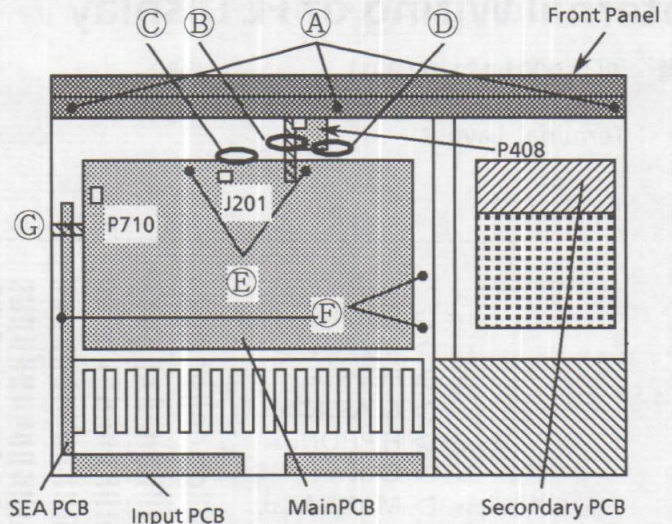

Fig 1. Top View
- 1) Remove the 3 revets (A) fastening top of the Front Panel, and the 3 screws (L) fastening bottom of the Front Panel.
- 3) Cut the tie band (B) and disconnect the connector P408(Fig.1), then remove the MASTER VOLUME knob.
- 1) Remove the 7 screws (H) fastening the Input PCB and release the rebet (C) fastening the SEA PCB
- 2) Remove the connector P710(Fig.1).
- 3) Cut the Tie Band (B), (C) and (D).
- 4) Disconnect the connector P408(Fig.1) and P407(Fig.4).